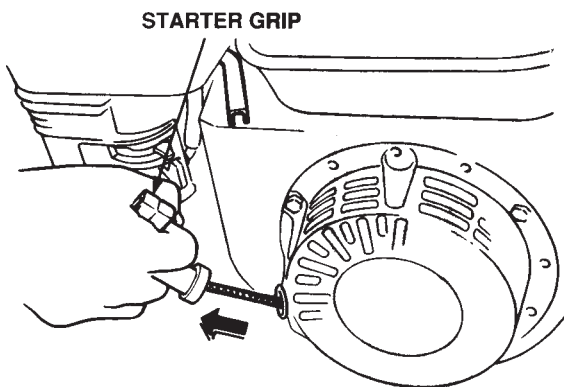

Figure 24. Starter Grip
8. Grasp the starter grip (Figure 24) and slowly pull it out. The resistance becomes the hardest at a certain position, corresponding to the compression point. Pull the starter grip briskly and smoothly for starting.